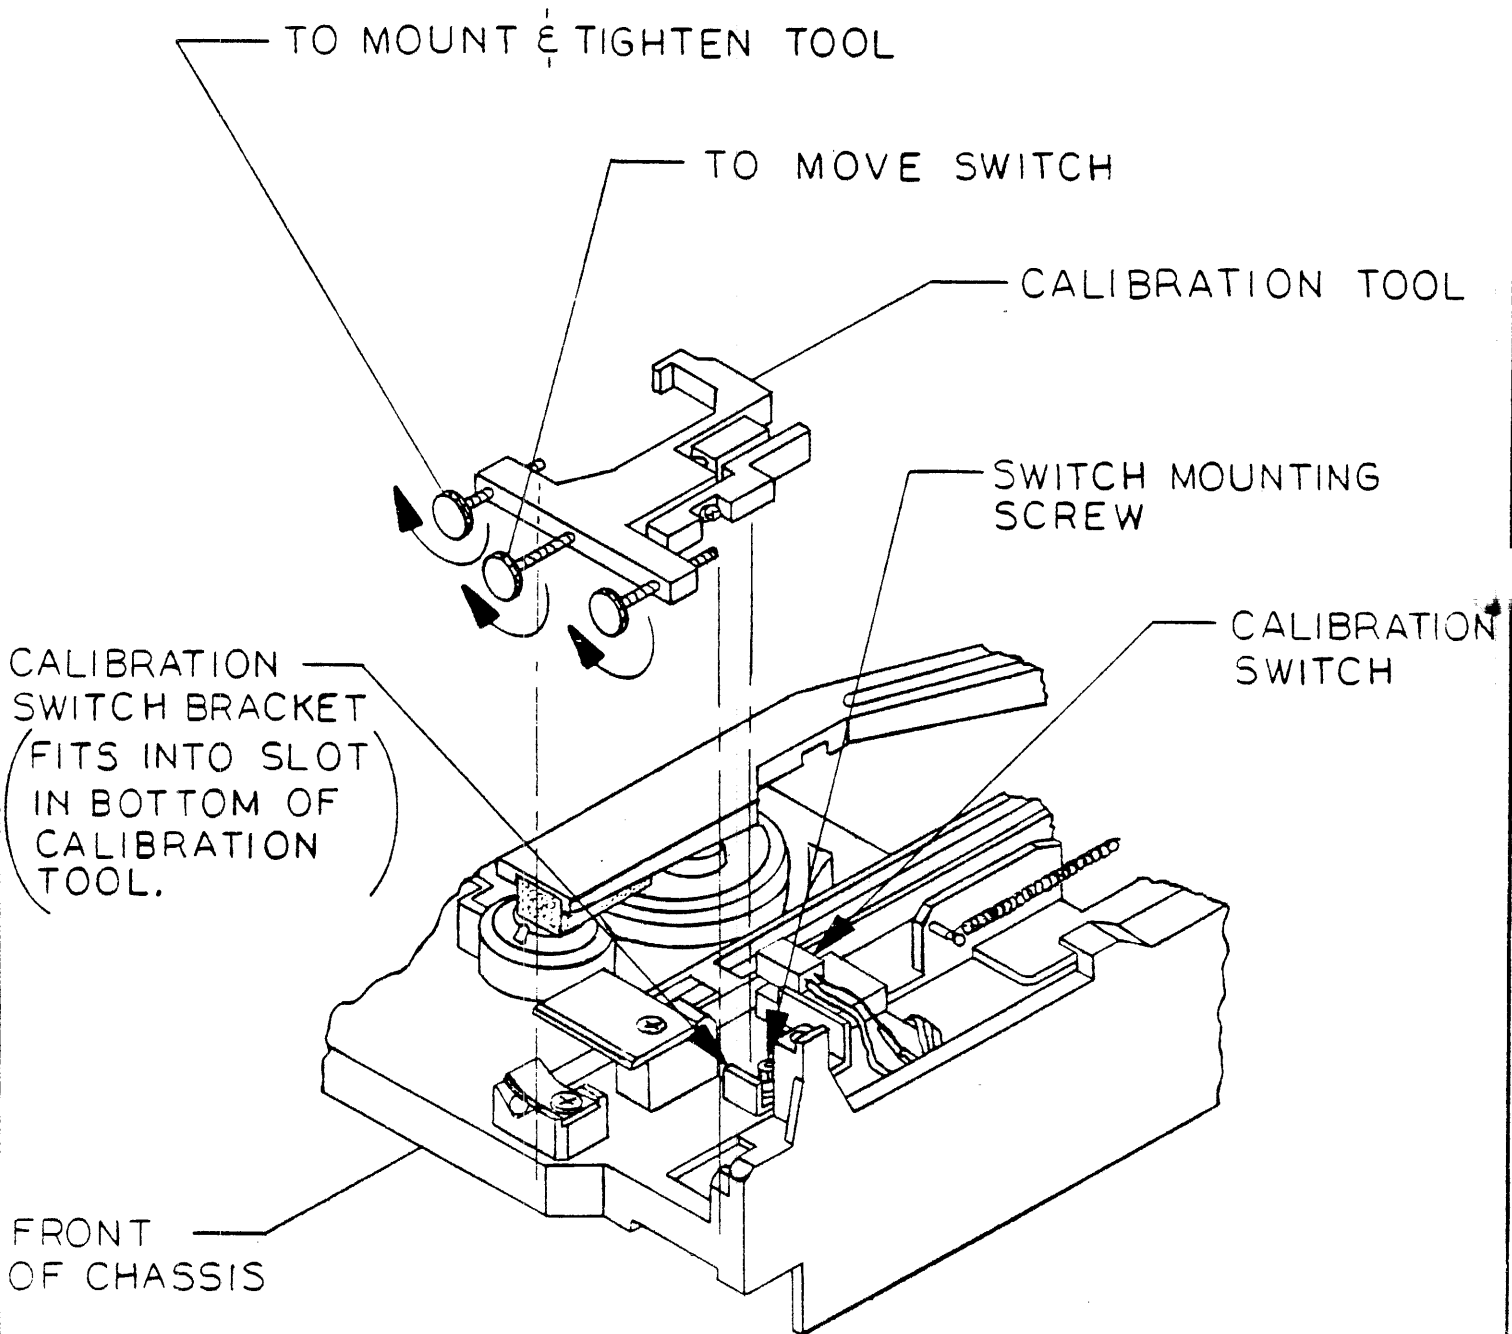

FIGURE 3. THE INSTALLATION OF THE CALIBRATION TOOL
- 7.1.4 Install the calibration tool onto the drive as shown in Fig. 3. Turn the adjusting screw on the calibration tool clockwise until the calibration switch is as far as possible towards the rear of the chassis. Turn the power on to the glass stand.